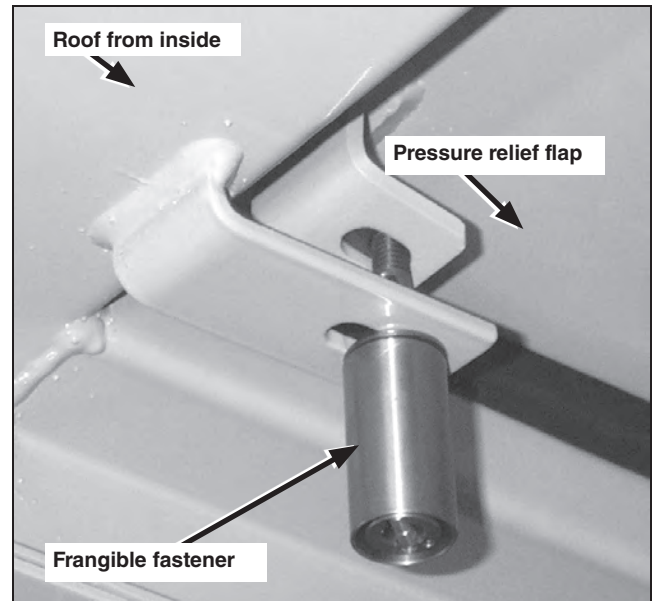

Figure 14. Frangible fasteners are factory-set for proper tension on pressure relief flaps.
STEP 20. Visually make sure all frangible fasteners securing the pressure relief flaps are in place and undamaged. See Figure 14.